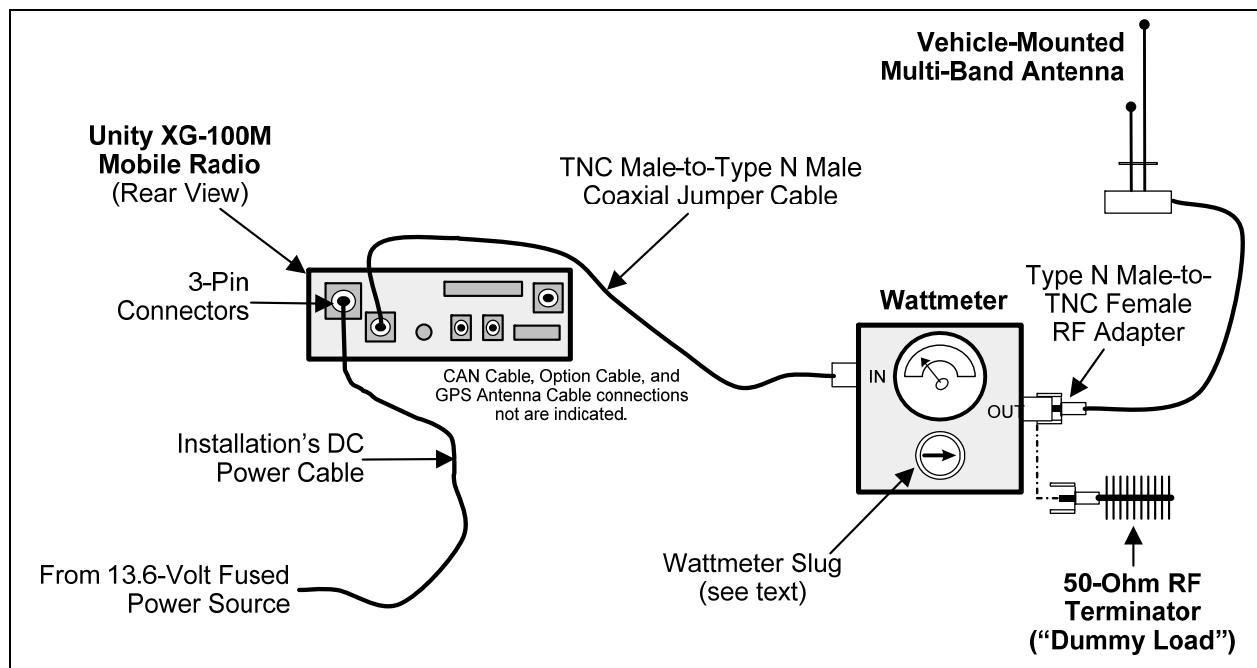

Figure 15-1: Wattmeter Connections for Antenna System Tests
1. Using the Type N male to TNC male RF coaxial jumper cable, connect the radio's antenna connector to the wattmeter's input connector. Refer to Figure 15-1 as necessary.
1. Connect the antenna cable from the vehicle-mounted antenna to the wattmeter as shown in Figure 15-1.